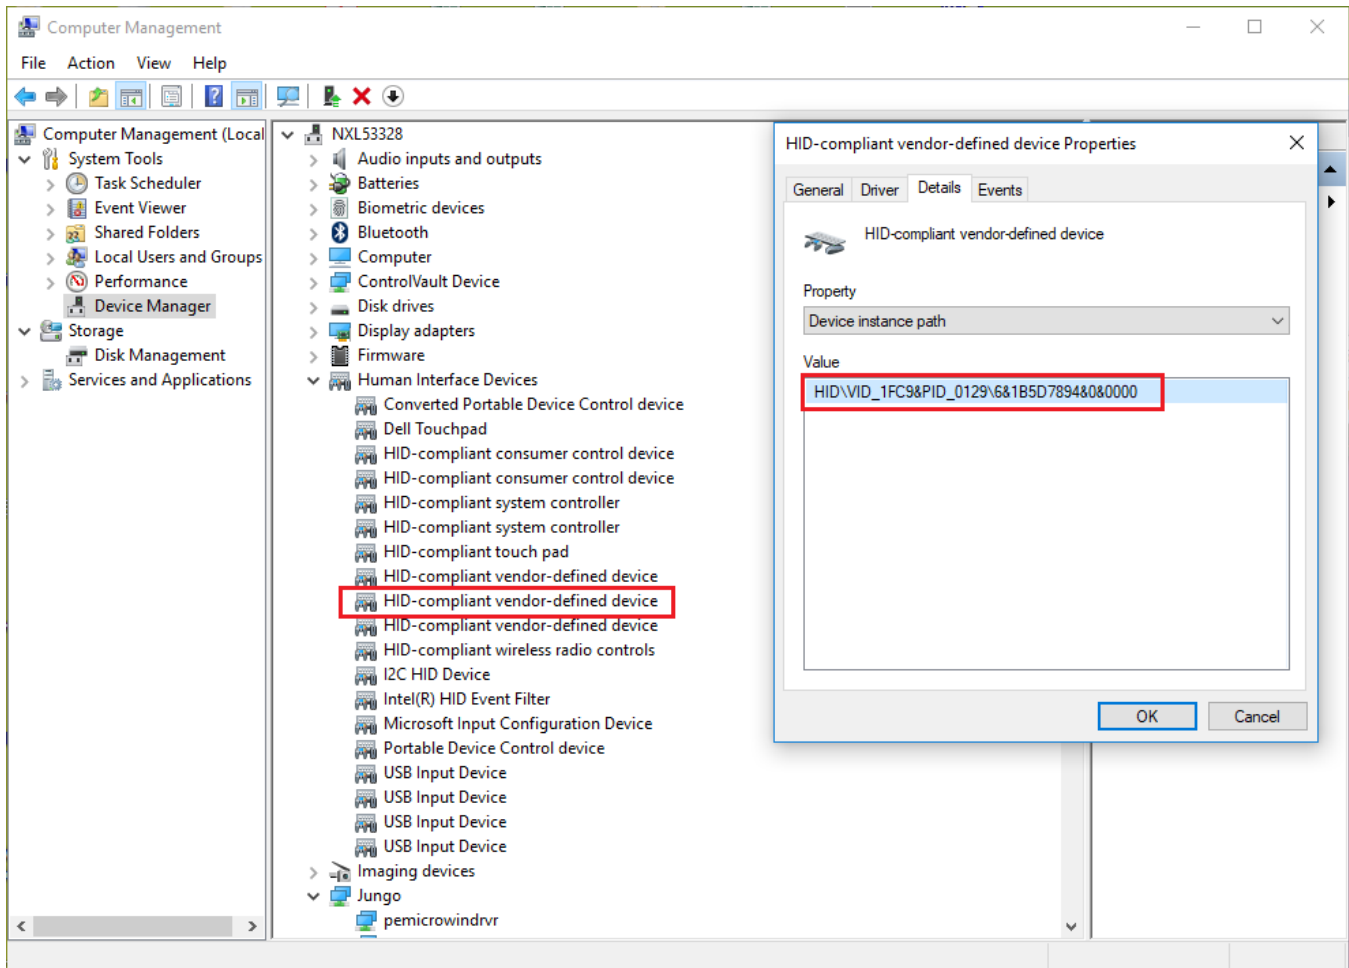

Figure 19. Device as shown in Device Manager
3. The PC recognizes the i.MX 8QM device as (VID:PID)=(1FC9:0129), as shown in Figure 19.